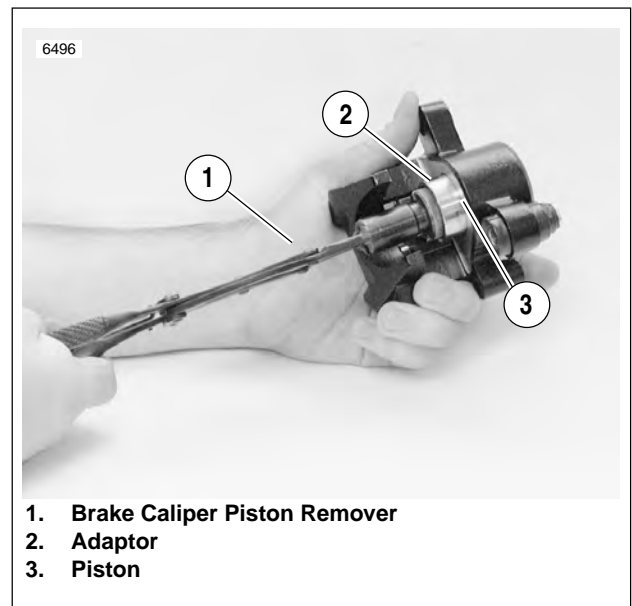

Figure 2-49. Removing Rear Brake Caliper Piston
3. See Figure 2-49. Remove piston (3) using BRAKE CALIPER PISTON REMOVER (1) (Part No. B-42887) with adaptor (2).